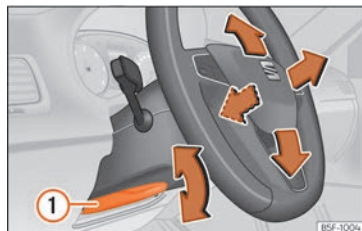

Fig. 24 Lever in the lower left side of the steering column.
• Adjusting the position of the steering wheel: pull the »» Fig. 24 ① lever down, move the steering wheel to the desired position and lift the lever back up until it locks.